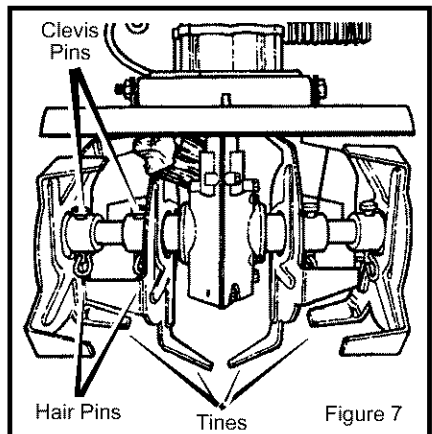

Figure 7
2. While wearing gloves, remove the **hairpins** and **clevis pins** that secure the tine assemblies to the shaft (see Figure 7). Remove the tines from the shaft.